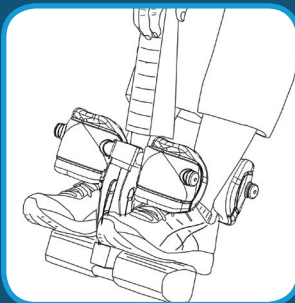

Figure 7
- Push down on the handle of the Ankle System, pull toward your legs and release when the fit is snug. Test the closure by jiggling the handle from front to back to make sure the foot clamps are locked securely (Figure 7). Make sure your pant legs do not interfere with obtaining a secure closure.